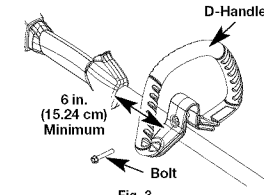

Fig. 3
- Loosen the bolt on the handle just enough to move it (Fig. 3).
- Tighten the bolt until the D-handle is secure. (Fig. 3)